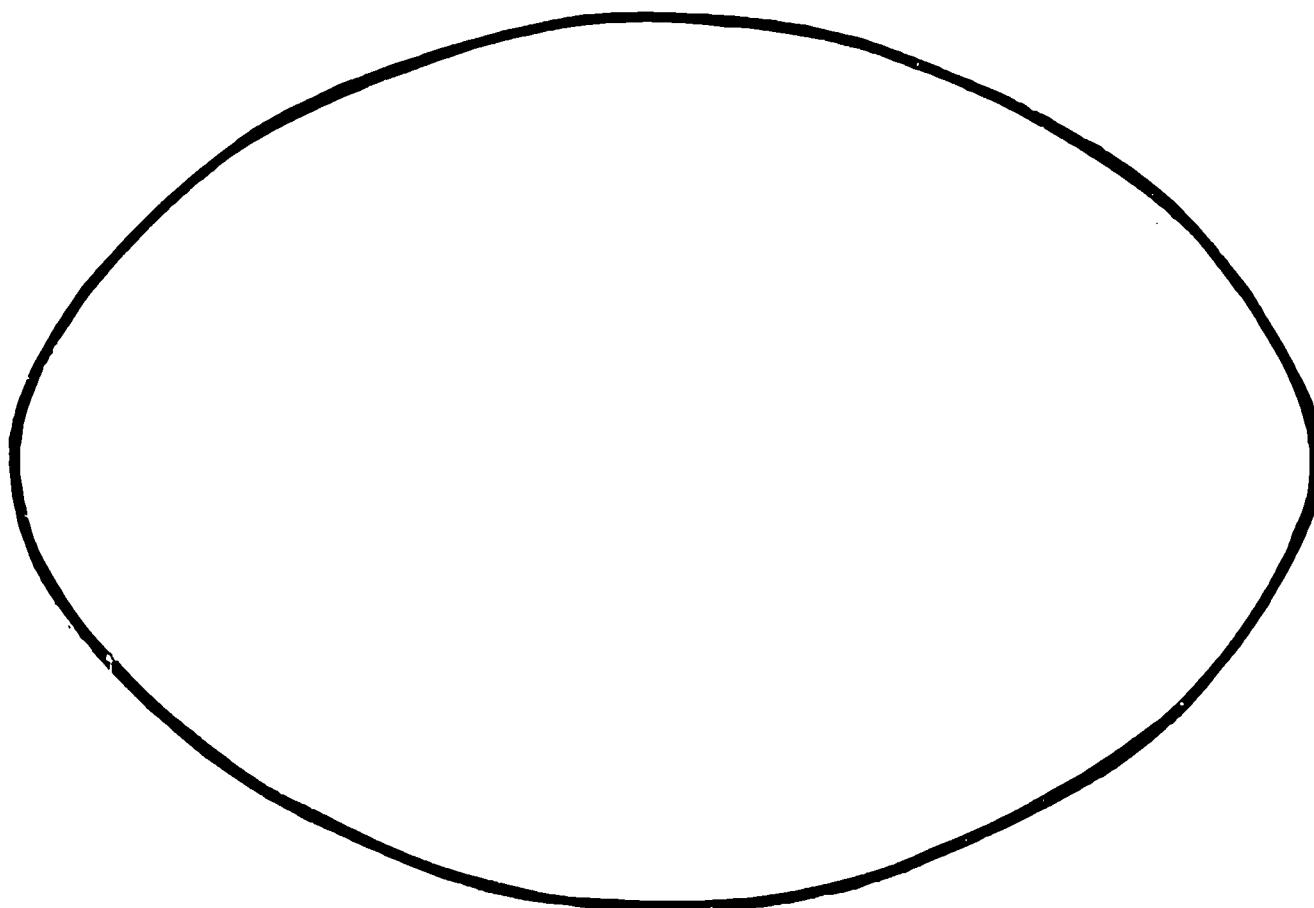

Fig. 110-1. Pattern Sheet
1. Remove pattern sheet from Teacher's Guide, Fig. 110-1. Make a spirit master and duplicate, one per student, for use in ACTIVITY 60B.
1. Remove or trace the pattern sheet, Fig. 110-1, from the Teacher's Guide and make a spirit master. Duplicate pattern sheet, one per student.